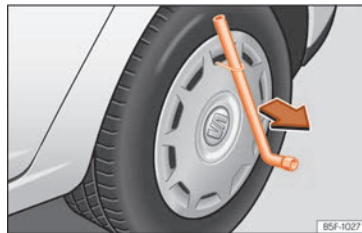

Fig. 67 Removing the full hubcap
- Insert the wheel brace onto the wire hook »» Fig. 67 and pull the hub cap in the direction shown by the arrow.